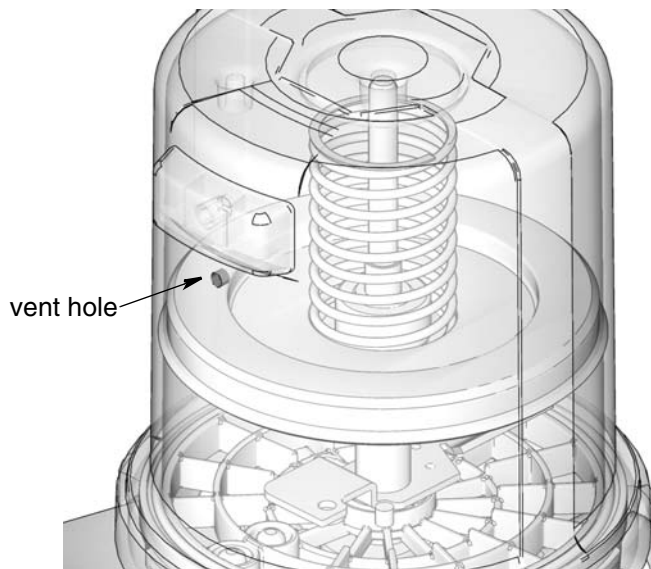

FIG. 7
3. Fill reservoir with grease until seal of follower plate breaches the vent hole (FIG. 7) and the majority of air is expelled from the reservoir.